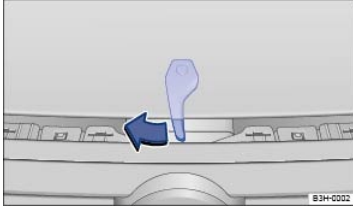

Fig. 175 Above the radiator grille: Outside engine hood release.
- Push the outside hood release lever in the direction of the arrow ⇒ Fig. 175 and lift the hood all the way up. A gas-pressure strut will hold the hood up.